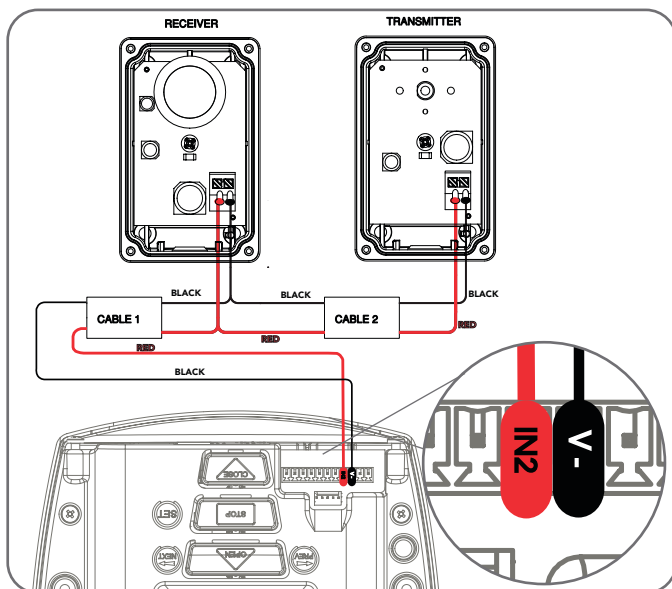

Fig 8.2
- By default the Axess® Pro Series 3000 will take two wire safety beams (connect one wire to IN2 input and the second wire to V-, next to the IN2 terminal (Fig. 8.2)).